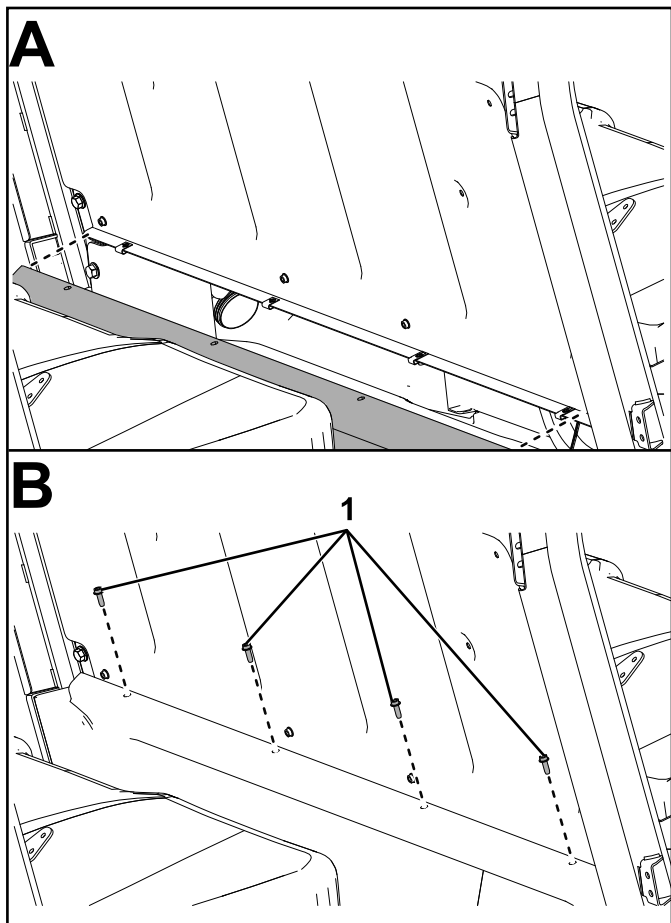

Figure 56
23. Secure the middle seat panel to the foot well and 4 clips (1/4 inch) using 4 hex-washer head bolts (1/4 x 3/4 inch) as shown in Figure 56.